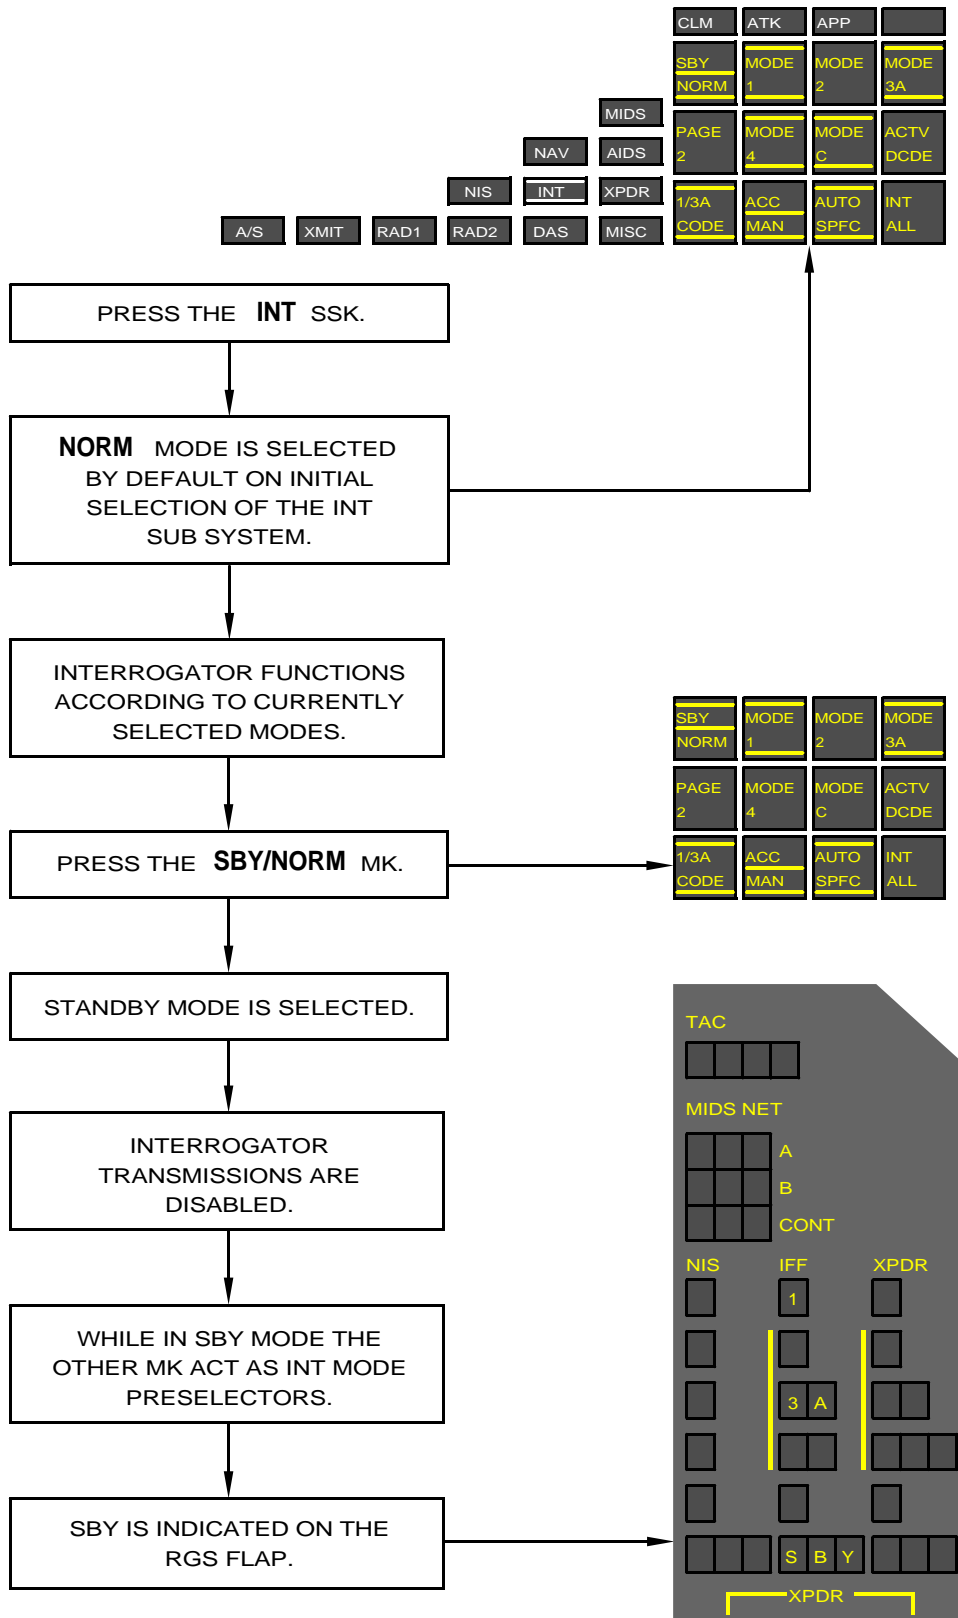

Figure 8.62 - Select Between Interrogator Normal and Standby Mode
- Select between the STANDBY and NORMAL mode (Figure 8.62)